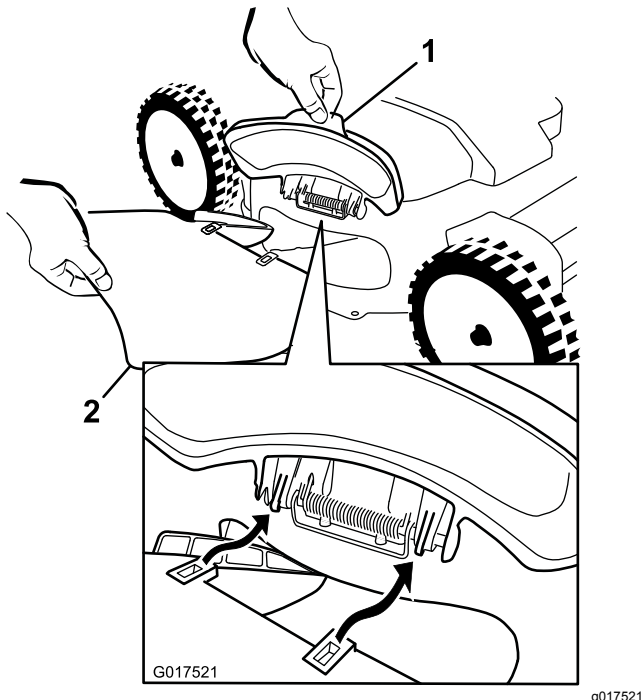
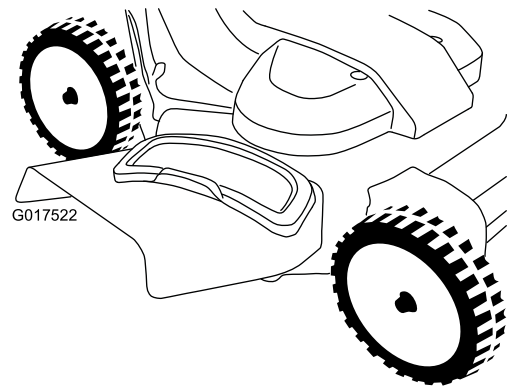

Figure 27
Figure 28
- Lift open the side-discharge door (Figure 27).
- Install the side-discharge chute as shown in Figure 27 and Figure 28, and close the door onto the chute.